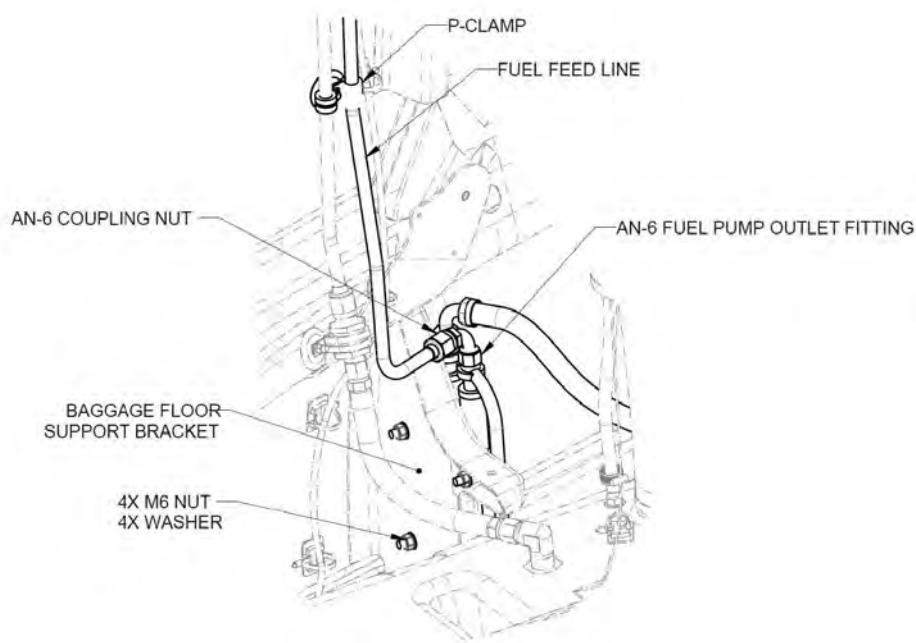

FIGURE 10-18
6. Disconnect connector D9100P from Auxiliary Fuel Pump. (See Figure 10-18.)
7. Disconnect connector D9087P from Main Fuel Pump. (See Figure 10-18.)
1. Install the Fuel Pump onto Baggage Floor Support Bracket. (See Figure 10-18.)